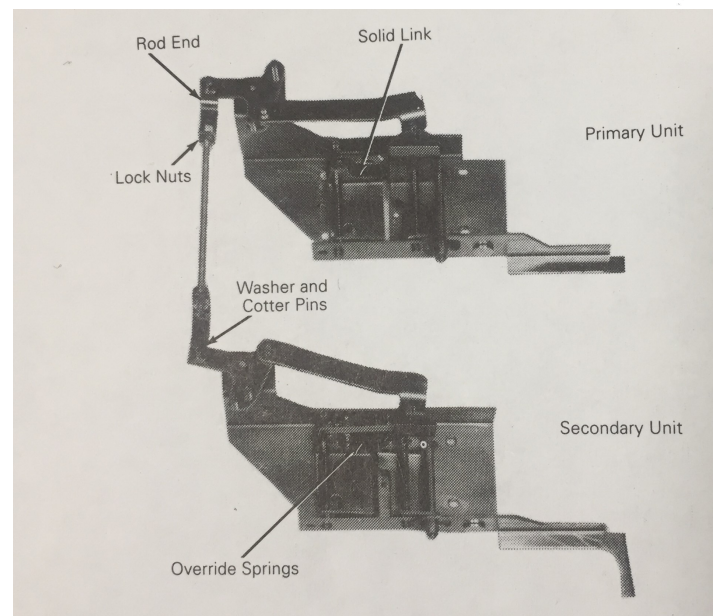

Figure 6. Attachment of the interconnection rod for a vertical installation
1. For a vertical installation, attach the rod ends to the pivots as shown in Figure 6. The rod ends are provided in the Mechanical Interlock kit; the $\frac{1}{4}$ -20 threaded rod is supplied by the customer.